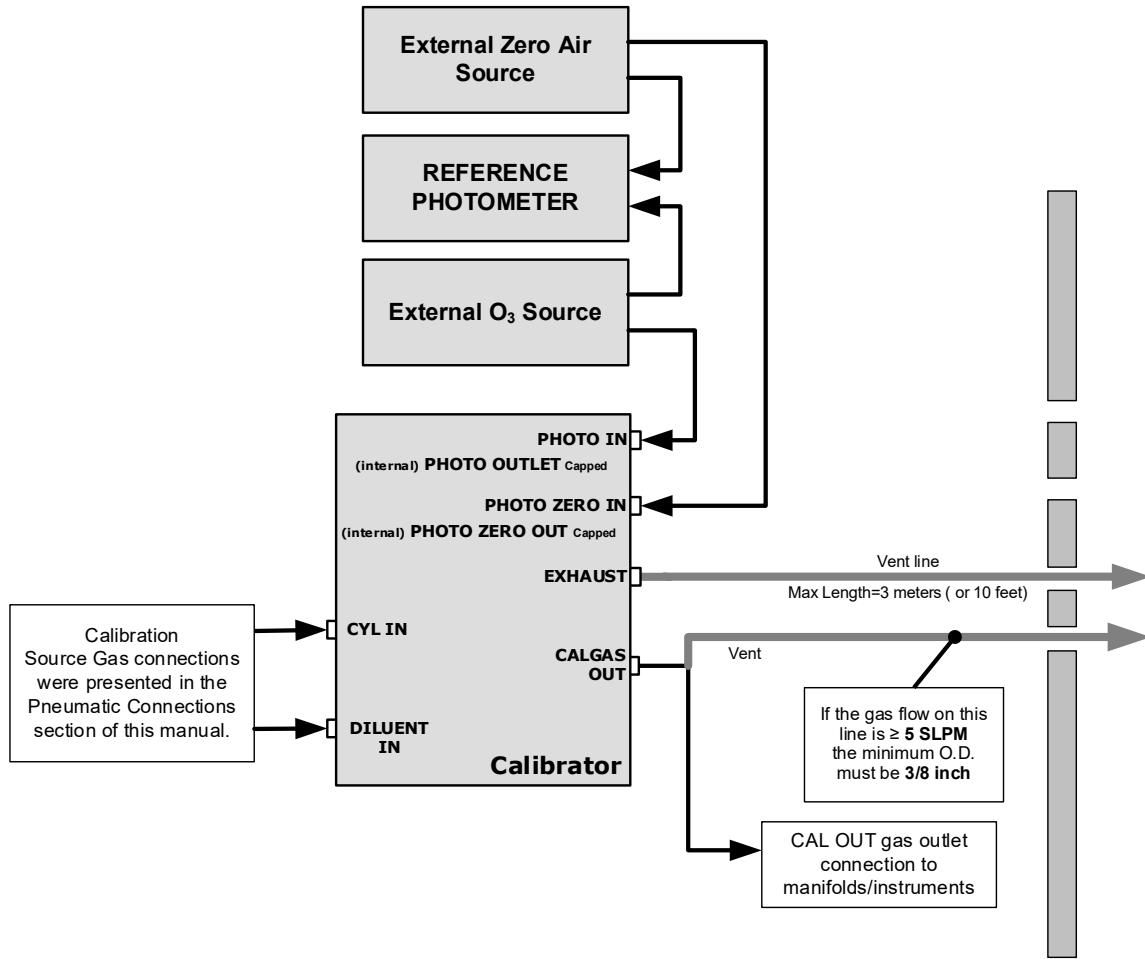

Figure 6-5. External Photometer Calibration Setup with Direct Connections
- Figure 6-5 shows the external zero air and O3 sources as well as the reference photometer connected directly to the fixtures on the calibrator.